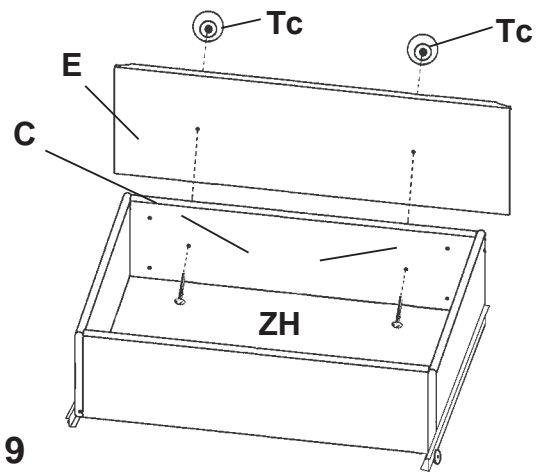

Fig. 9
9. Attach a Drawer Face (E) to the Drawer False Front (C). Insert #8 x 1-3/8" Machine Screws (ZH) through the center holes in the Drawer False Front and **LOOSELY** fasten the Knobs (Tc). See Figure 9. **DO NOT INSERT THE LOPROFILE SCREWS (Sd) YET.** Repeat the above steps for the remaining Drawer Faces (E) for the other five drawers.